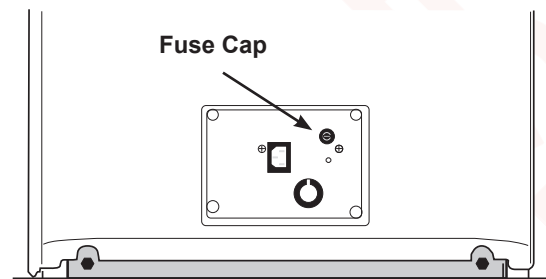

Figure 42.
2. Remove fuse cap from back of table near the power cord (Figure 42).